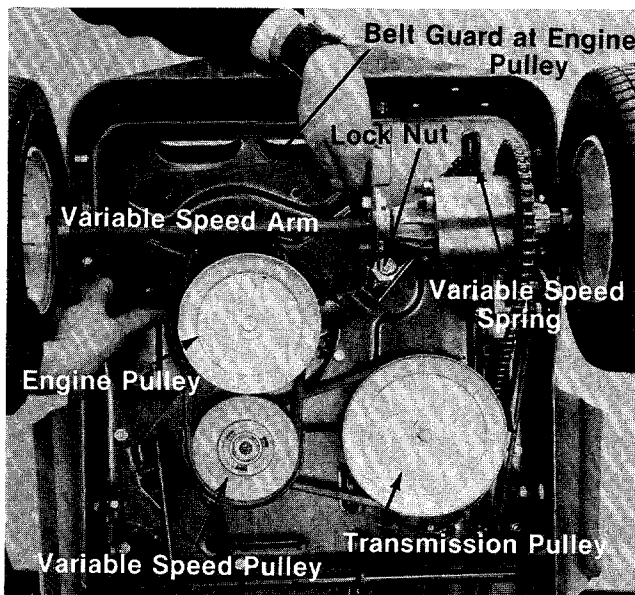

FIGURE 24. ENGINE BELT GUARD REMOVAL
4. Remove the belt guard at the engine pulley. See figure 24.
5. Remove the nut and lock washers at the transmission pulley and variable speed pulley. See figure 24.
6. Remove the lock nut at the variable speed arm and lift off the spring. See figure 24.